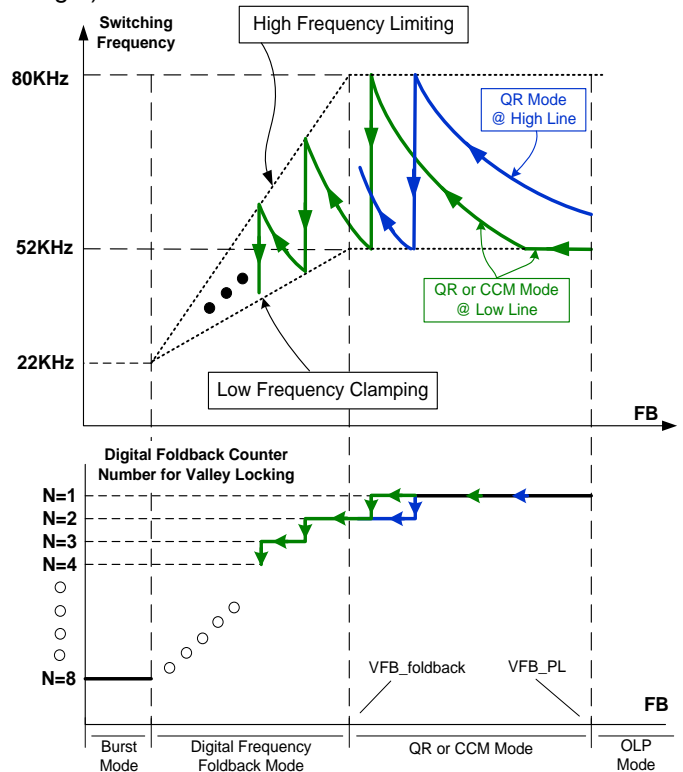
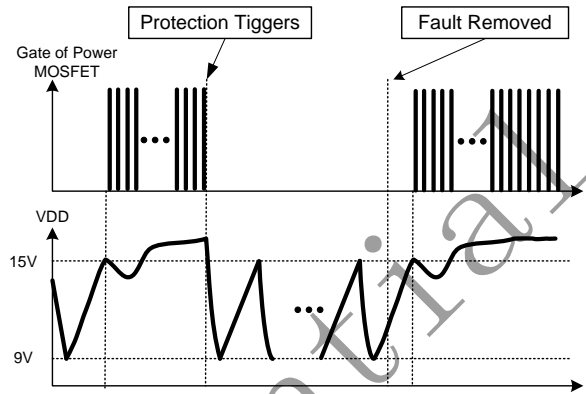

Fig.3
Fig.9
■ At normal or full loading conditions, the operating mode is CCM when the input is in low line range since the low clamping frequency (52KHz typical) is touched. Thus, small size transformer can be used with high power conversion efficiency. When the input is in high line input range, the IC work in QR mode with high frequency clamping (typical 80KHz), as shown in Fig.3. When FB voltage is larger than VFB_PL, the system enters into OLP mode with auto recovery protection (as illustrated in Fig.8 and Fig.9).
VFB_foldback), the IC works in “**Digital Frequency Foldback**” mode. The system frequency is limited between “High Frequency Limiting” and “Low Frequency Clamping”, as shown with the dashed line in Fig.3. In “**Digital Frequency Foldback**” mode, the IC locks the switching valley and selects the valley according to the load changes. There is a counter in SF5873, the IC selects the valleys according to the registered counter number. In SF5873, the maximum counting number is 8.
As shown in Fig.9, once a fault condition is detected, switching will stop. This will cause VDD to fall because no power is delivered from the auxiliary winding. When VDD falls to UVLO(off) (typical 9V), the protection is reset and the operating current reduces to the startup current, which causes VDD to rise, as shown in Fig.9.